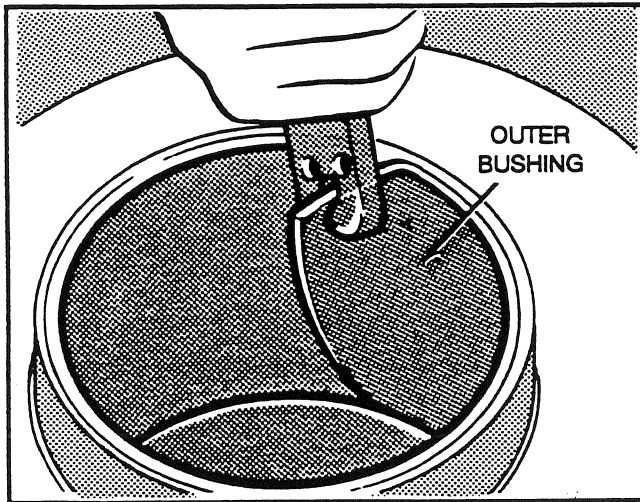

Fig. 28
1. Remove and discard the inner and outer bushings from the final drive housing journals (see Fig. 28).